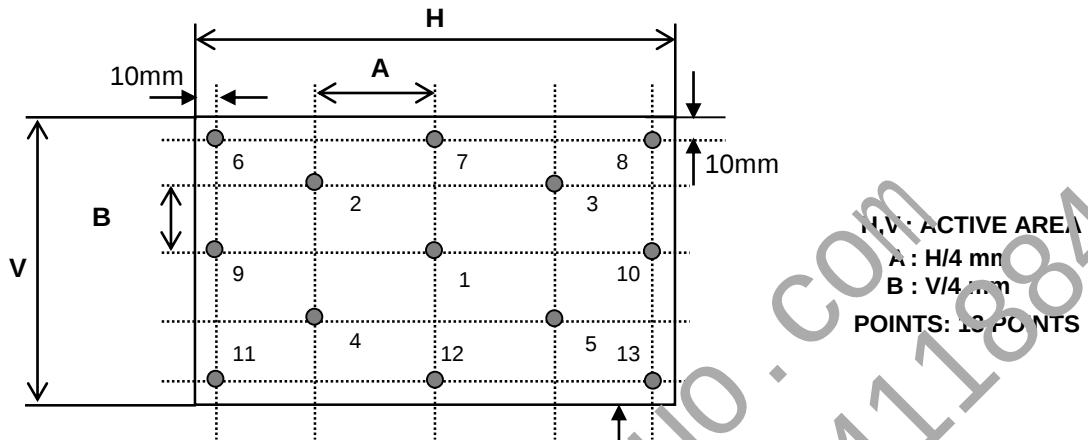

FIG. 3 Response Time
4. Response time is the time required for the display to transition from black to white (rise time,  $T_r$ ) and from white to black (falling time,  $T_f$ ). For additional information see FIG 3.